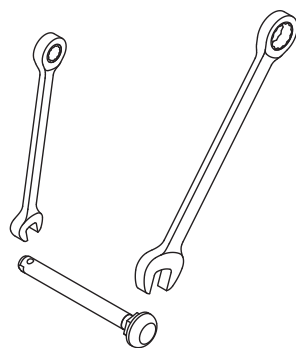

Figure 19.2 Quick release axle adjustment.
- 1 Using a 7/16" open end wrench, securely hold the detent ball end of the axle. (See Figure 19.2)